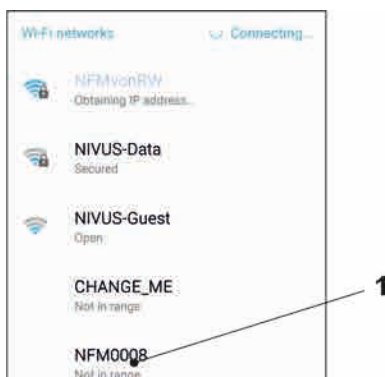

Fig. 31-4 WLAN List
4. From the list of available WLANs select the NFM (Fig. 31-4 no. 1) with the according SSID (default state = serial no.).